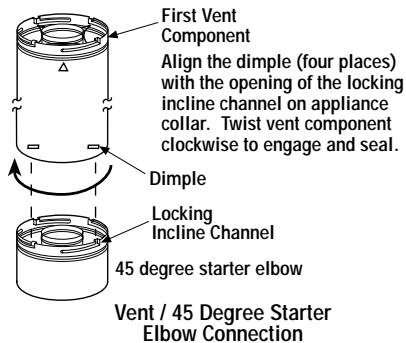

Figure 15
D. Attach vent components to 45 degree starter elbow - Secure Vent SV4.5 direct vent system components are unitized concentric pipe components featuring positive twist lock connections (see Figure 15).
To attach a vent component to the 45 degree starter elbow, align the dimpled end over the elbow, adjusting the radial alignment until the four locking dimples are aligned with the inlet of the four inclined channels on the collar (refer to Figure 15).
Secure Vent SV4.5 direct vent system components are unitized concentric pipe components featuring positive twist lock connection, (refer to Figure 15 and 16 on page 12). All of the appliances covered in this document are fitted with collars having locking inclined channels. The dimpled end of the vent components fit over the appliance collar to create the positive twist lock connection.
To attach a vent component to the the starter elbow, align the dimpled end over the collar, adjusting the radial alignment until the four locking dimples are aligned with the inlets of the four incline channels on the collar (refer to *Figure 15* on page 12).